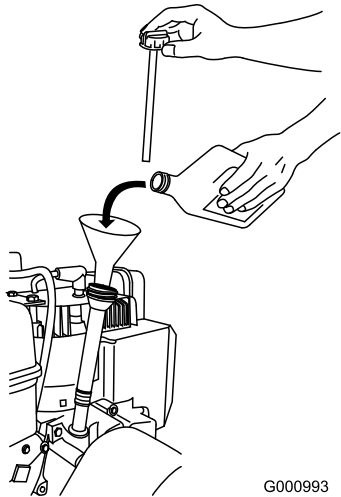

Figure 37
2. Remove the dipstick and check the oil level (Figure 37). If the oil level is below the Add mark on the dipstick, add oil. Refer to Filling the Engine with Oil.